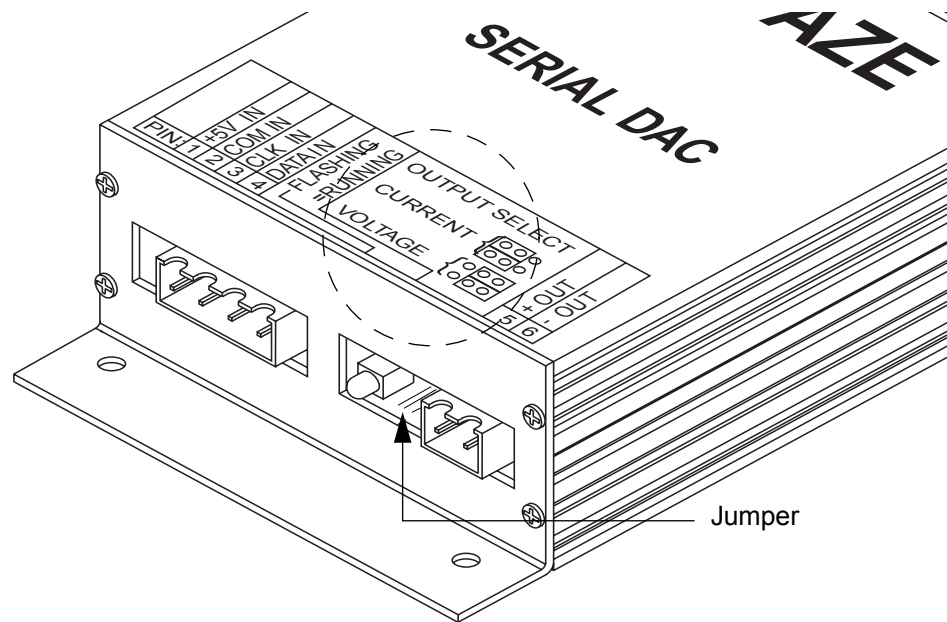

Figure 9.10 Voltage/Current Jumper Positions
14. The SDAC's voltage and current output is jumper selectable. Refer to *Figure 9.10 on page 212*. Configure the jumpers as indicated on the SDAC label.